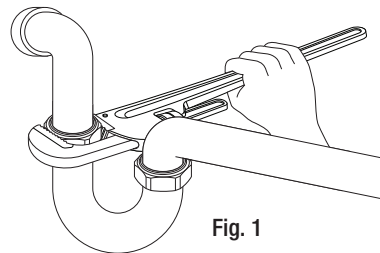

Fig. 1
- Disconnect drain line where it attaches to the disposer discharge elbow (see Fig. 1).